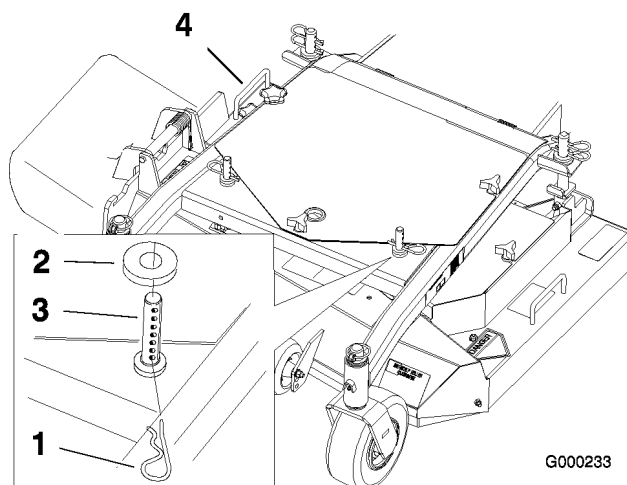

Figure 5
3. Remove the hairpin cotter and washer on both front height-of-cut posts (Figure 5). Discard the washers, these are not to be used for adjusting the height-of-cut.